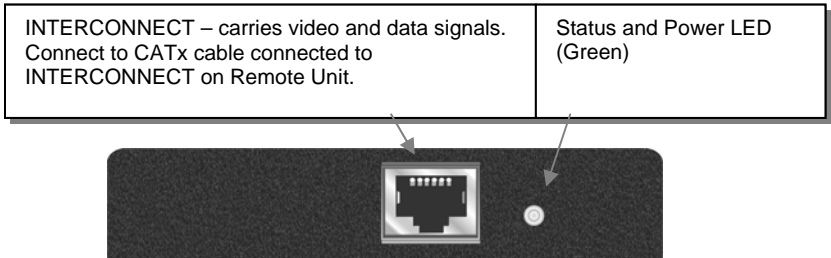

Figure 7 Local Unit – front view
5. Connect the CATx cable from the Remote Unit to the INTERCONNECT socket on the front of the Local Unit (see Figure 7).